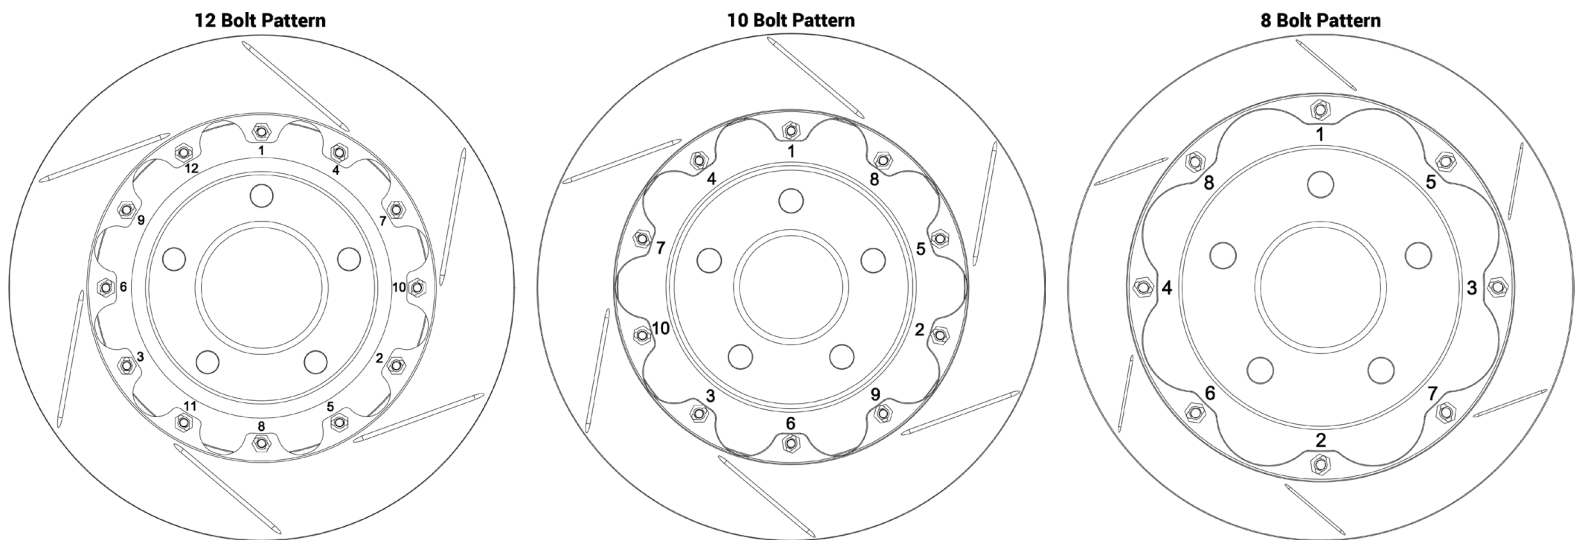

Fig. 2
Step 7: Inspect prior to tightening to ensure all components are installed properly. Tighten and torque all bolts in the sequence pattern shown below (Fig. 2) to **7.4 lbf-ft / 10 Nm**